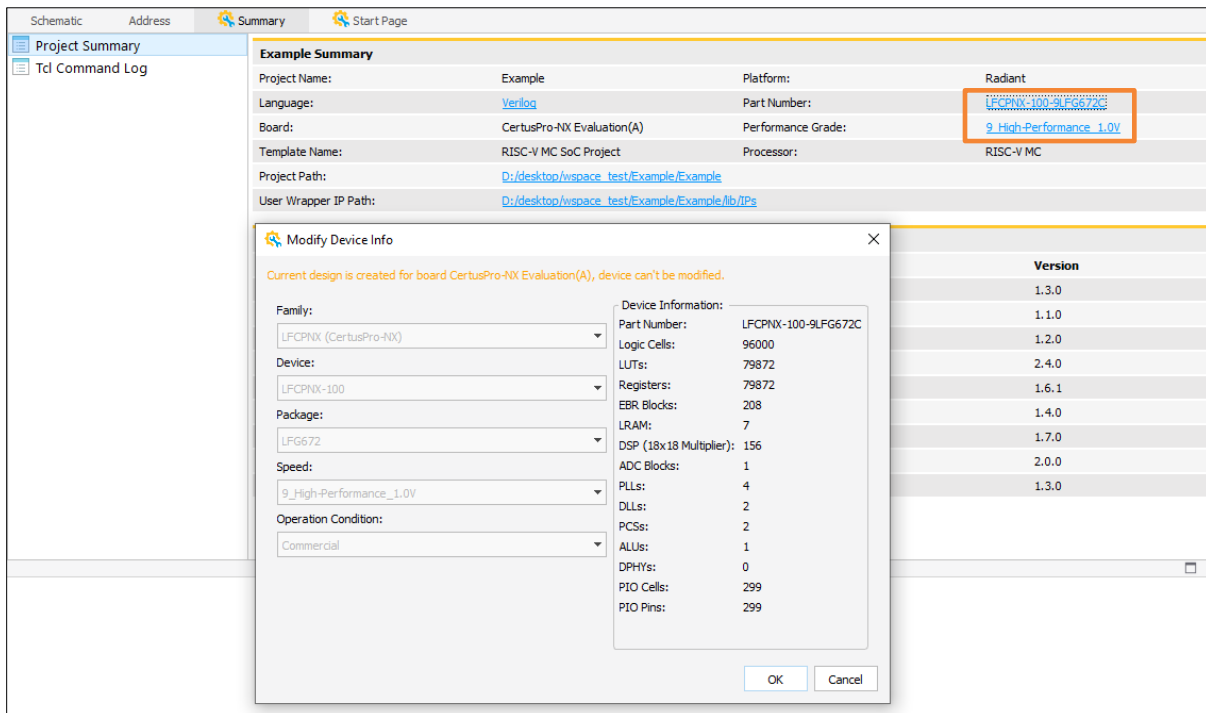

Figure 2.14. SoC Project Summary – Part Number or Performance Grade
11. Click **Part Number** or **Performance Grade** link in **Summary** (Figure 2.14) to modify the device info.